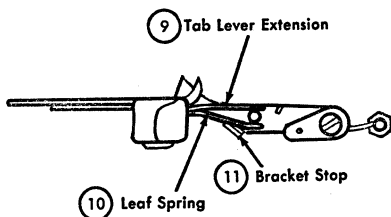

Figure 27. Tab Lever Extension and Leaf Spring
9. TAB LEVER EXTENSION. Form this extension so that, at rest, the engaging tip of the tab lever and the rear corner of the rebound check lever are even when viewed from the top of the machine (Figure 27).
10. TAB LEVER LEAF SPRING. Form this spring to just touch the stud on the rebound check lever while in its rest position (Figure 27).
is often helpful in preventing the tab lever from binding in its bracket (Figure 27).